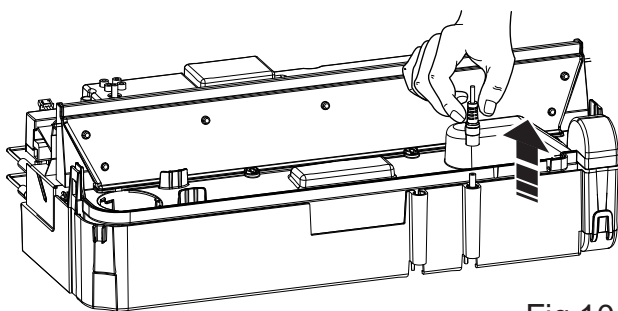

Fig.10
4. Disconnect the electrical connector, located on the right side of the sump. (Fig.10).